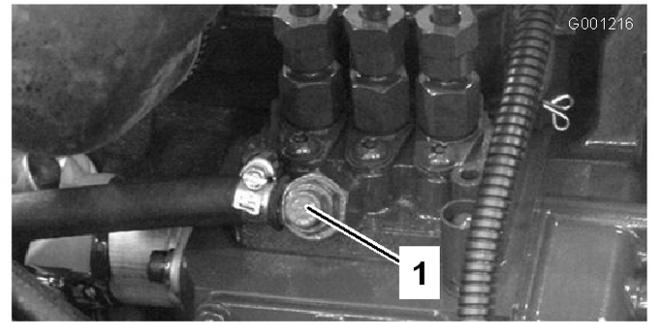

Figure 30
3. Open the air bleed screw on the fuel injection pump (Figure 30).